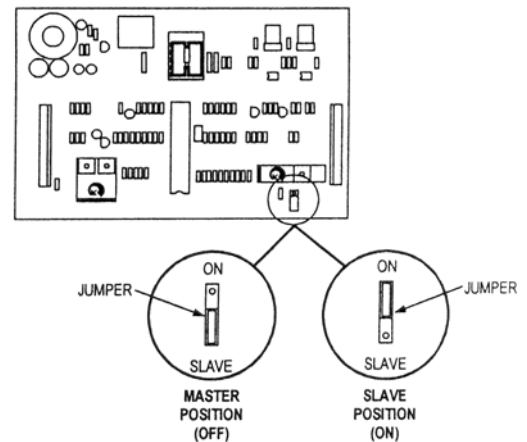

Figure 8
- Place jumper on the master operator's P.C. board in the "OFF" position (See Fig. 8).
- Place jumper on slave operator's P.C. board in the "ON" position. (See Fig. 8).